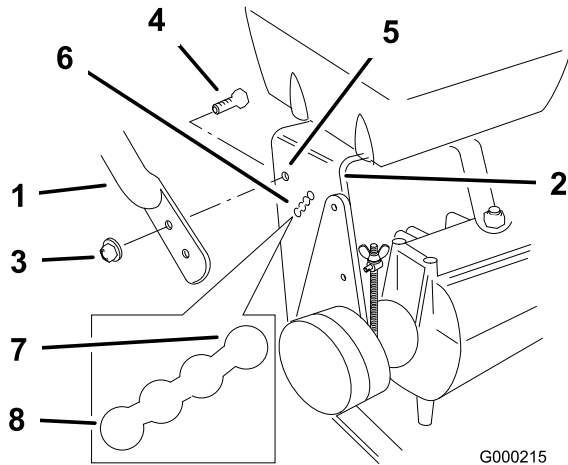

Figure 16
2. Loosen the upper flange bolts (3/8 x 1 inch) and the flange nut securing the handle to the rear frame (Figure 16).
3. Remove the lower flange bolts (3/8 x 1 inch) and flange nuts securing the handle to the rear frame (Figure 16).